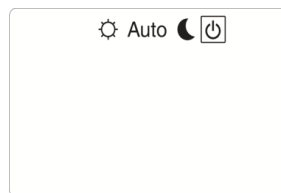

Fig. 16
- 1) press the navigation button (▶) until the stand-by operation symbol  is selected, as in Fig. 16;